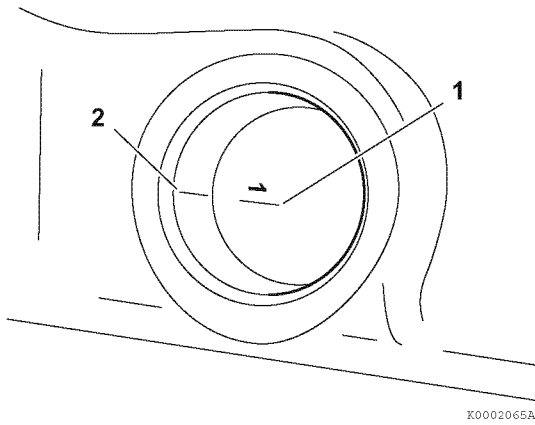
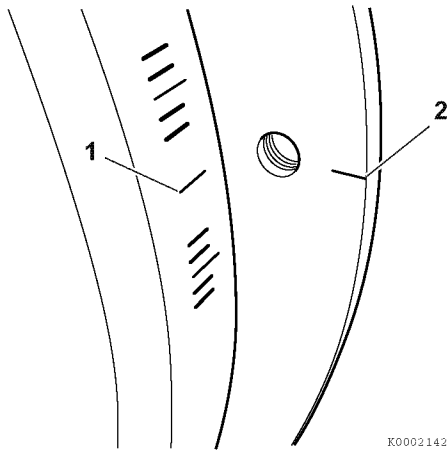
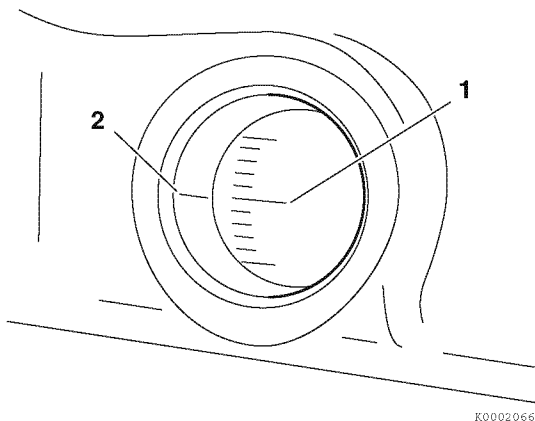

Figure 7-30
Figure 7-31
Figure 7-32
- Highlight the timing reference mark on the flywheel housing (**Figure 7-30, (2)**) or engine back plate (**Figure 7-31, (2)**). Highlight the TDC (Top Dead Center) mark (**Figure 7-30, (1)**), (**Figure 7-31, (1)**) on the flywheel.
10. Highlight the target timing mark (Figure 7-31, (1)), (Figure 7-32, (1)) on the flywheel timing grid. The fuel injection timing varies depending on each specification. For details, refer to the machine manual.
18. Check the position of the flywheel target timing mark (**Figure 7-32, (1)**) on the flywheel grid in relation to the timing reference mark (**Figure 7-32, (2)**) on the flywheel housing or back plate. If the two marks are aligned, the fuel injection timing is correct. If the marks do not align, the fuel injection timing must be adjusted. See *Adjusting Fuel Injection Timing on page 7-22*.